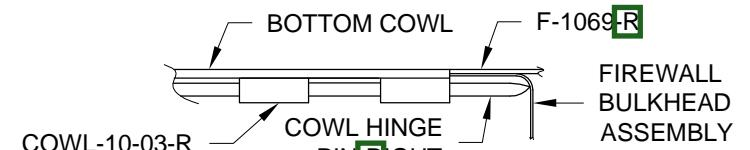
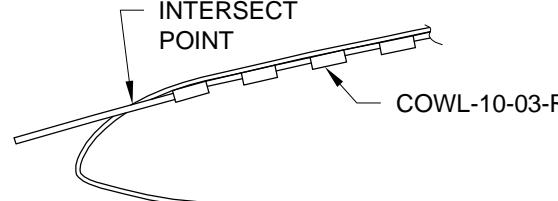

FIGURE 3: SETTING THE PIN LENGTH
FIGURE 4: KNUCKLE LOCATION
Step 7: Using the pin supplied with the hinge, attach the upper half of the COWL-10-03 Side Hinges to the lower half already riveted to the bottom cowl. Insert the pin until it contacts the Firewall Bulkhead Assembly. See Figure 3. Mark the pin/cowl intersect point on the bottom cowl. See Figure 4.